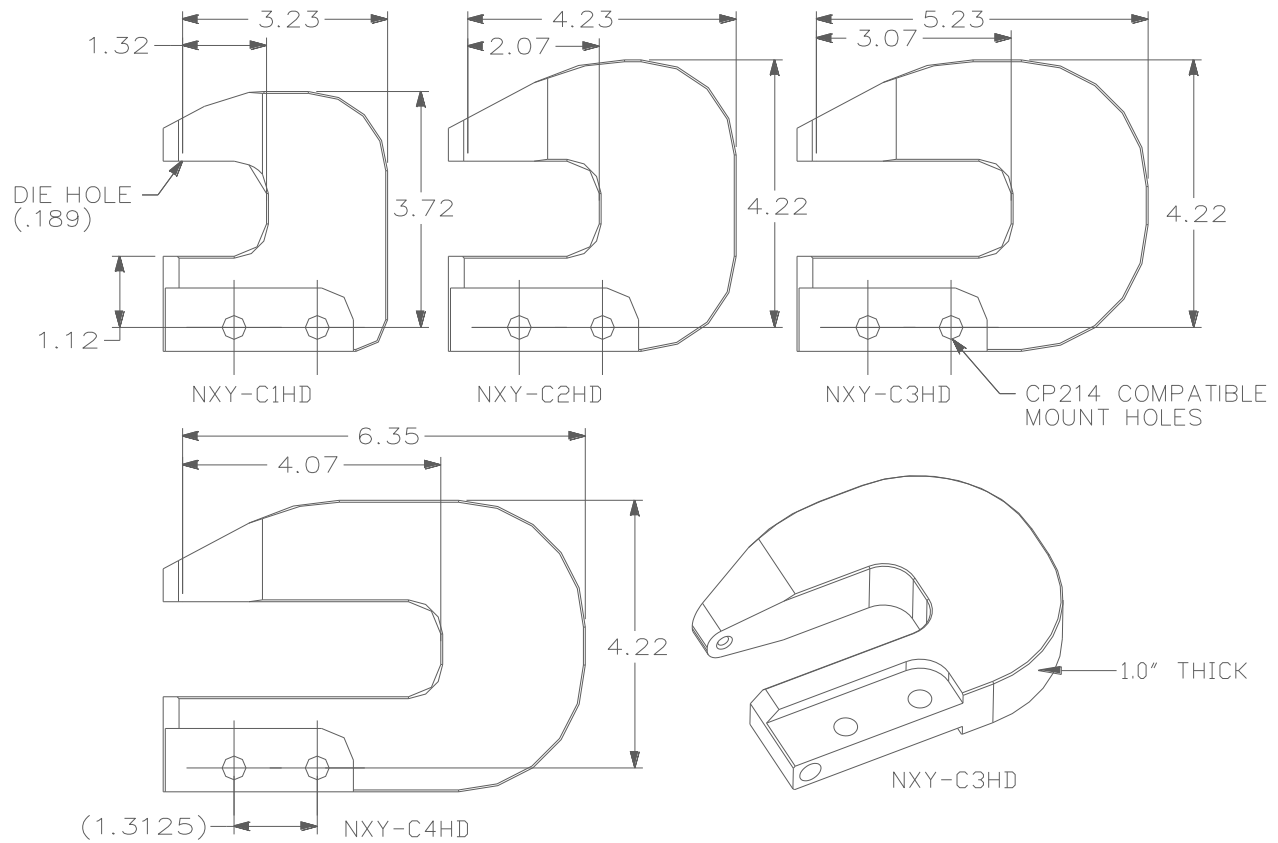

FIGURE 4 – HEAVY-DUTY C-YOKES
- 4.2 Refer to Figure 4 for heavy duty yokes, suitable for the NXC-6 and NXC-9 c-squeezers.